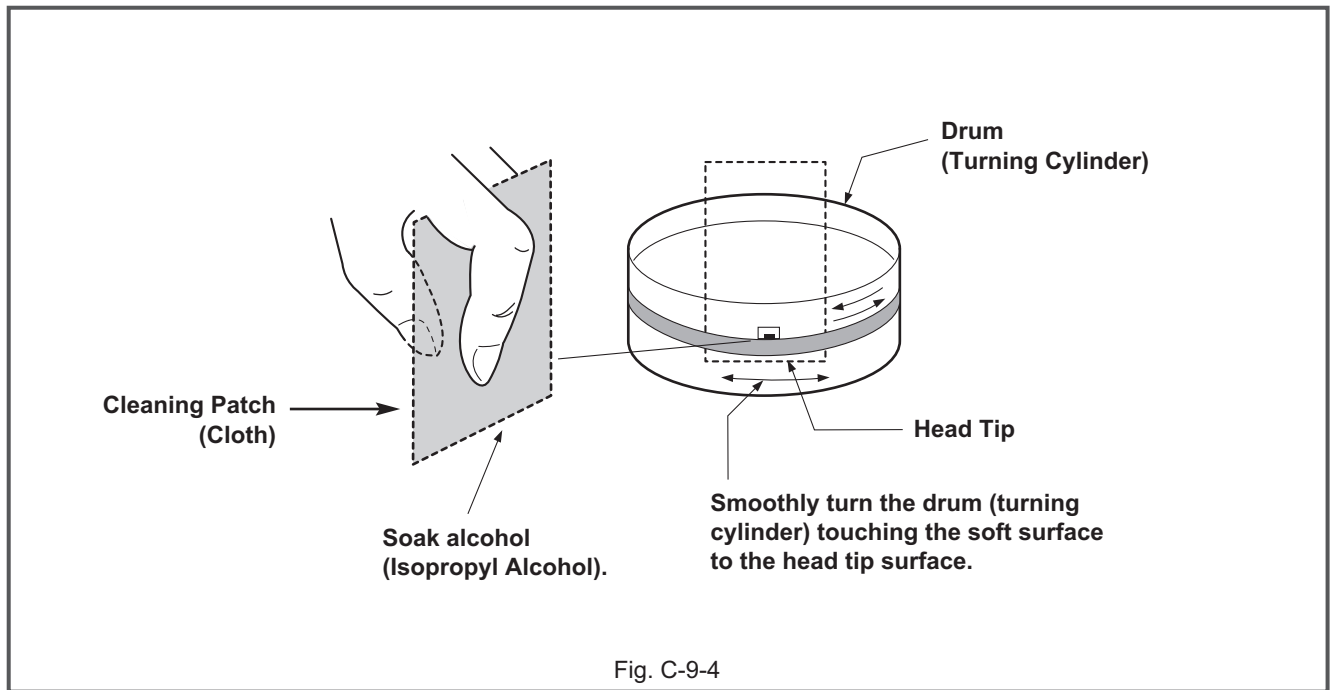

Fig. C-9-4
- (1) Removal of foreign material from video head (Fig. C-9-4)
- (2) Wipe the tape transport system and the drive system with the cleaning patch soaked in alcohol (Isopropyl Alcohol) when removing foreign materials from them.